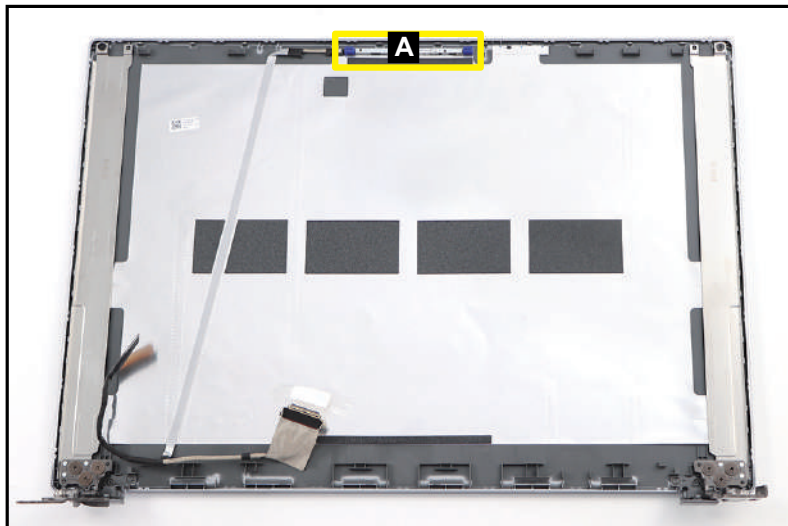

Figure 3-82. Camera Module Location
1. Find the camera module (A) on the LCD cover (Figure 3-82).